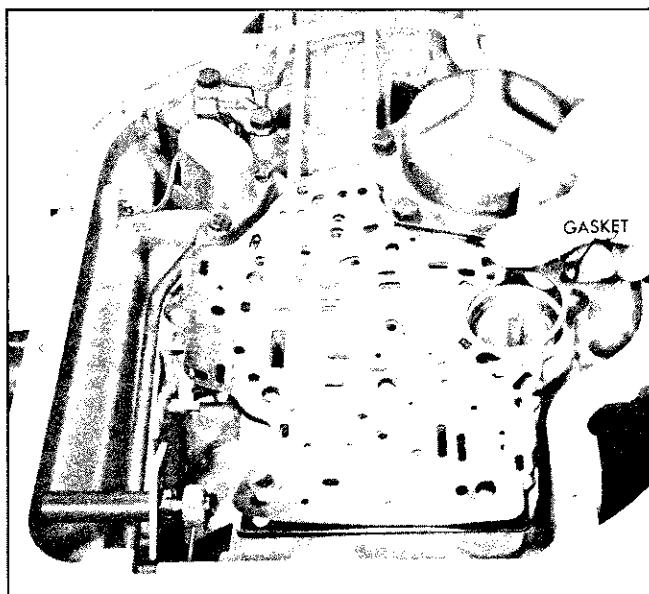

Fig. 7E-165 Installing Control Valve to Spacer Gasket
2. Install strainer and intake pipe assembly, attaching strainer to control valve assembly with the retainer bolt (Fig. 7E-16).